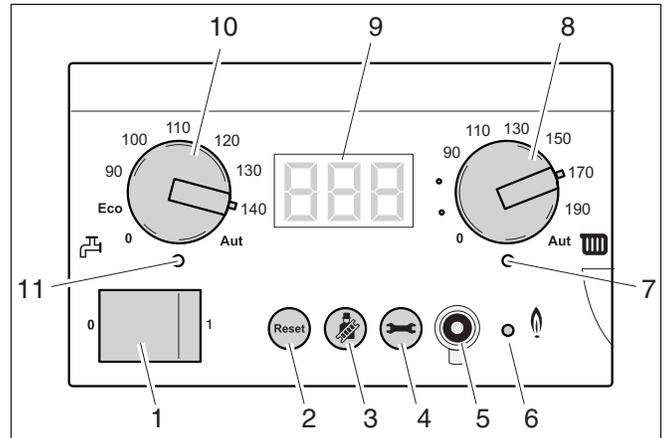

Fig. 72 BC10 basic controller
- Switch OFF the heating system by pressing the main switch of the BC10 (fig. 72, pos. 1).
- Switch off OFF heating system by pressing the main switch of the BC10 (fig. 72, pos. 1).